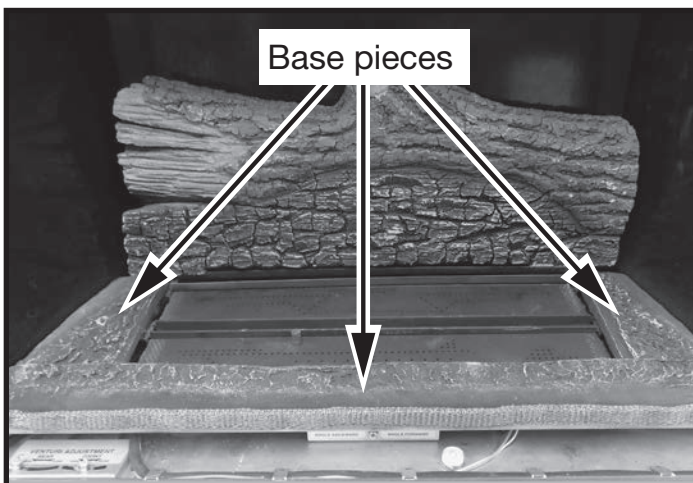

Figure 73: Three base pieces.
7. Install the three base pieces (Figure 54) as shown in Figure 73. The base pieces, in addition to adding an aesthetic dimension to the overall appearance, help to complete an enclosure for holding the ember pieces / glowing ember material pieces on top of the burners. The two side pieces have one hole each to accept the posts protruding from the bottom of logs two and four.